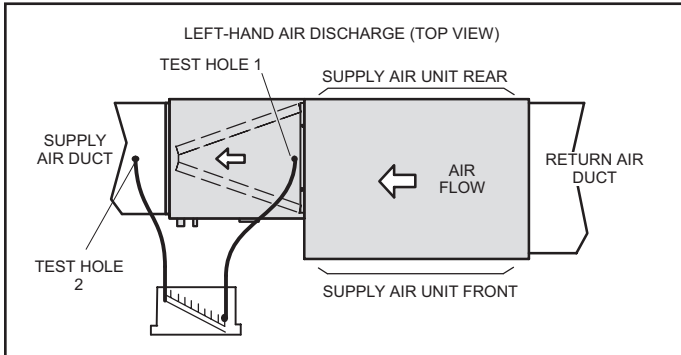

Figure 11. Static Pressure Test
A static pressure reading must be taken to see if the pressure drops are within the proper range. See Figure 11 as an example to obtain an accurate reading.
To ensure accuracy, test the air on both sides of the coil. Refer to Figure 11 for location of two test holes.
1. Drill a 5/16" test hole in the coil case 1" from the furnace flange (test hole 1, Figure 11).
2. Drill a 5/16" test hole into the supply air duct (test hole 2, Figure 11).